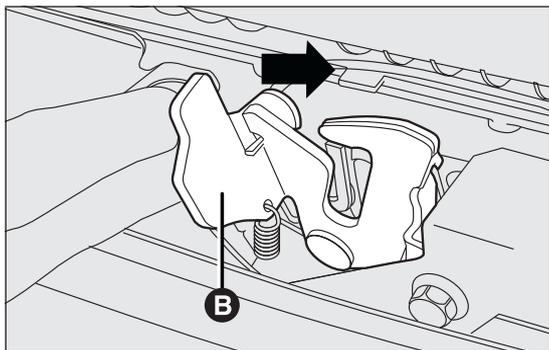

fig. 59
- move the lever B fig. 59 to the right as shown in the figure;